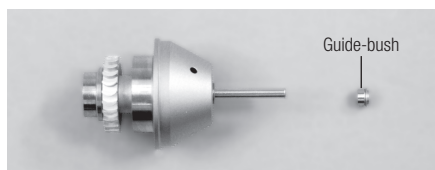

Fig. 21
- 2) Set the longer one of the guides of the guide bush on the end of the rotor shaft first along the test bur (Fig.21).